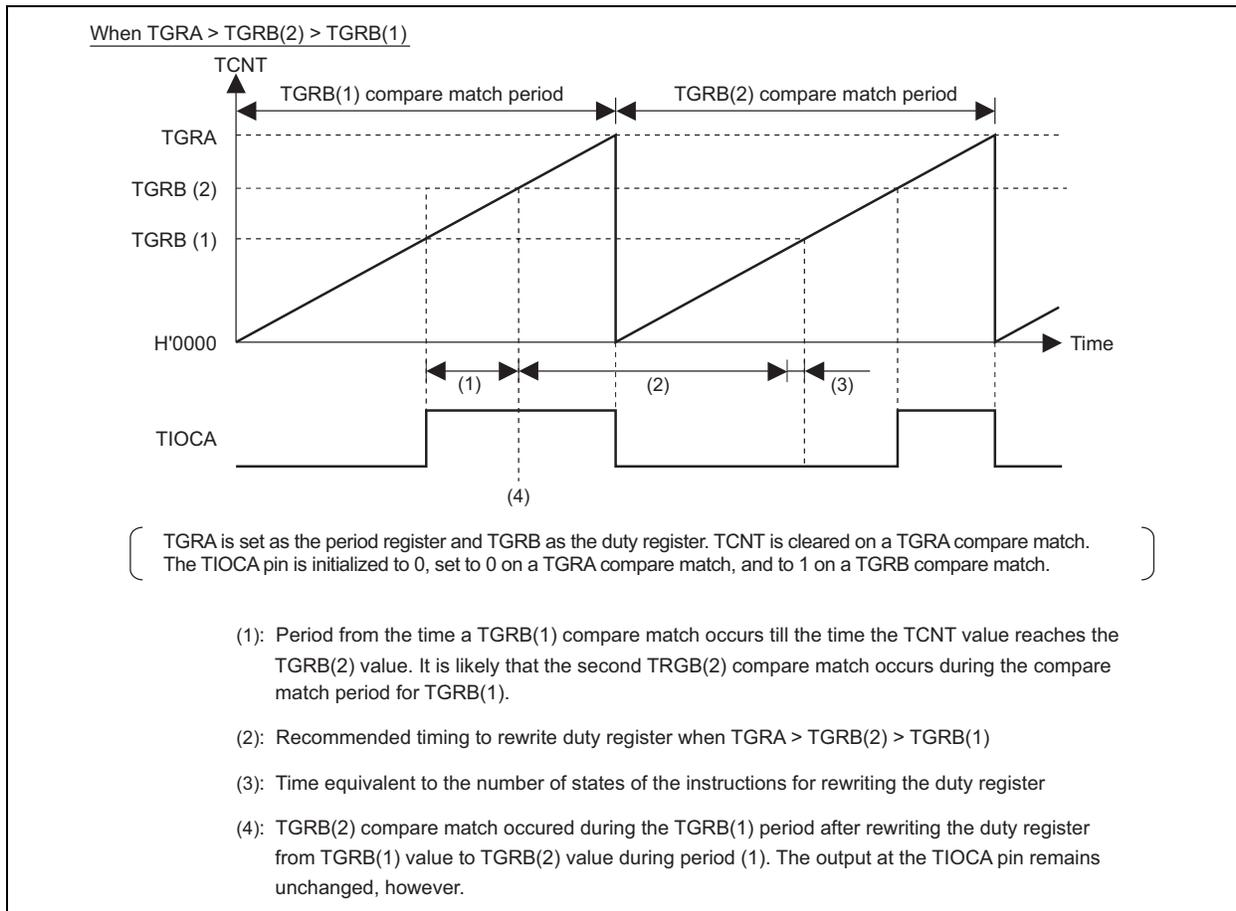

Figure 11 Timing for Rewriting Duty Register to Avoid 0% Duty and 100% Duty Outputs in PWM Mode ($TGRA > TGRB(2) > TGRB(1)$)
Figure 11 shows the timing example in which the duty register is written to avoid 0% and 100% duty outputs in PWM mode ($TGRA > TGRB(2) > TGRB(1)$).
In figure 11, the period (3) denotes the time equivalent to the number of states of the instructions executed to rewrite the duty register. It is calculated from the number of clocks input to the TCNT and the number of states of the instructions taken to rewrite the duty register.
If the duty register is written with the TRGB(2) value during the period ((1) in figure 11) that extends from the time a TGRB(1) compare match occurs during the TGRB(1) compare match period till the time the TCNT counts up to the rewritten value of the duty register (TGRB(2)), the second compare match (TGRB(2) compare match, (4) in figure 11) is likely to occur during the compare match period for TGRB(1). The output level of the TIOCA pin remains unchanged, however.
To rewrite the duty register in such a situation in which the duty register values are $[TGRA > TGRB(2) > TGRB(1)]$, therefore, it is necessary to do so during the period from the time the TCNT in the TGRB(1) compare match period exceeds the TGRB(2) value till the time the TCNT in the TGRB(2) compare match period reaches the old TGRB(1) value minus the period equivalent to the number of states taken to execute the instructions for rewriting the duty register ((3) in figure 11), i.e., ((2) in figure 11)).